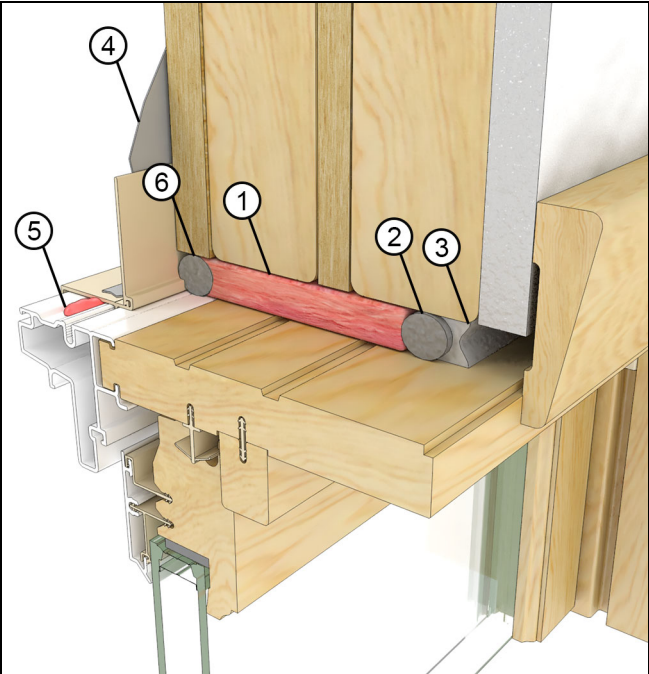

Figure 63
1. Loose Fill Fiberglass Insulation. Insulate the RO cavity with loose fill fiberglass insulation. Install a backer rod and sealant at the interior plane of the RO to create a continuous air seal. See Figure 63.